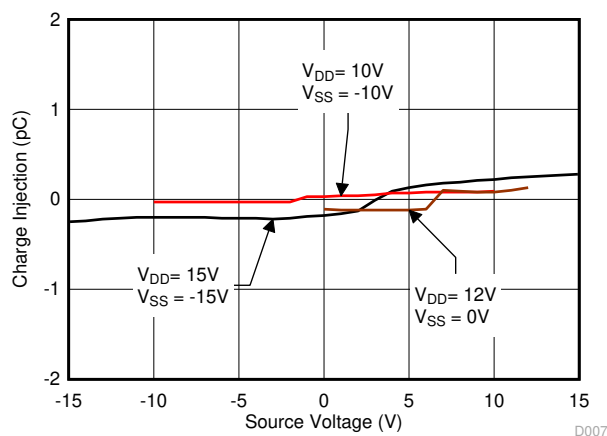

Figure 7-16. Charge Injection vs Source Voltage
The TMUX6119 utilizes special charge-injection cancellation circuitry that reduces the source (SA or SB)-to-drain (D) charge injection to as low as 0.19pC at $V_S = 0V$, as shown in Figure 7-16.